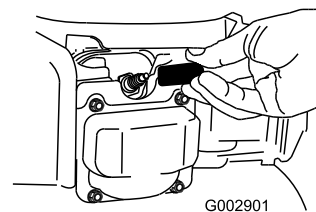

Figure 41
- Disconnect the spark-plug wire from the spark plug (Figure 41).